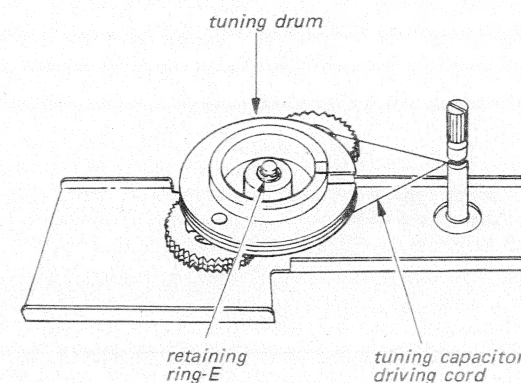

Fig. 2-17.
3. Remove the retaining-ring-E shown in Fig. 2-17 and take off the tuning drum.
4. Set the tuning drum as shown in Fig. 2-17, slot to the right.